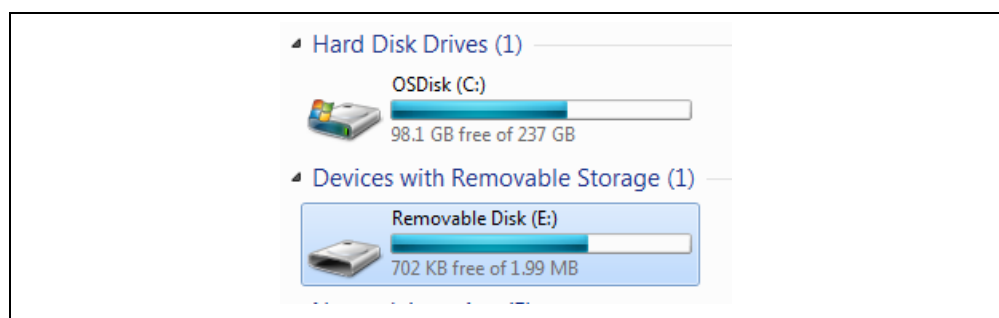

FIGURE 2-1: TimeFlash 2 Internal Flash Memory Access.
2. The TimeFlash 2 GUI installation file is also stored on the programmer's internal flash memory. Connect the TimeFlash 2 programmer to the computer via the USB cable, then locate the flash drive via the computer's file explorer (see Figure 2-1).